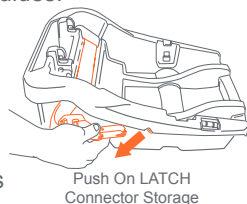

Fig. 51-1
2. Remove the Safety Seat from the base by squeezing the base release handle located under the center of the head end of the Safety Seat and lifting upward on the Safety Seat (See Fig. 24-1). **Store both LATCH push on connectors as shown in Fig. 51-1.**
4. Remove the **LATCH** Push On Connectors from their storage position inside the base (Fig. 51-1). Place the Base in the rear-facing position in a forward facing vehicle seat as shown in (Fig. 51-2). **The Child must face the rear of the vehicle and Safety Seat must be placed in a vehicle seat that faces forward.**